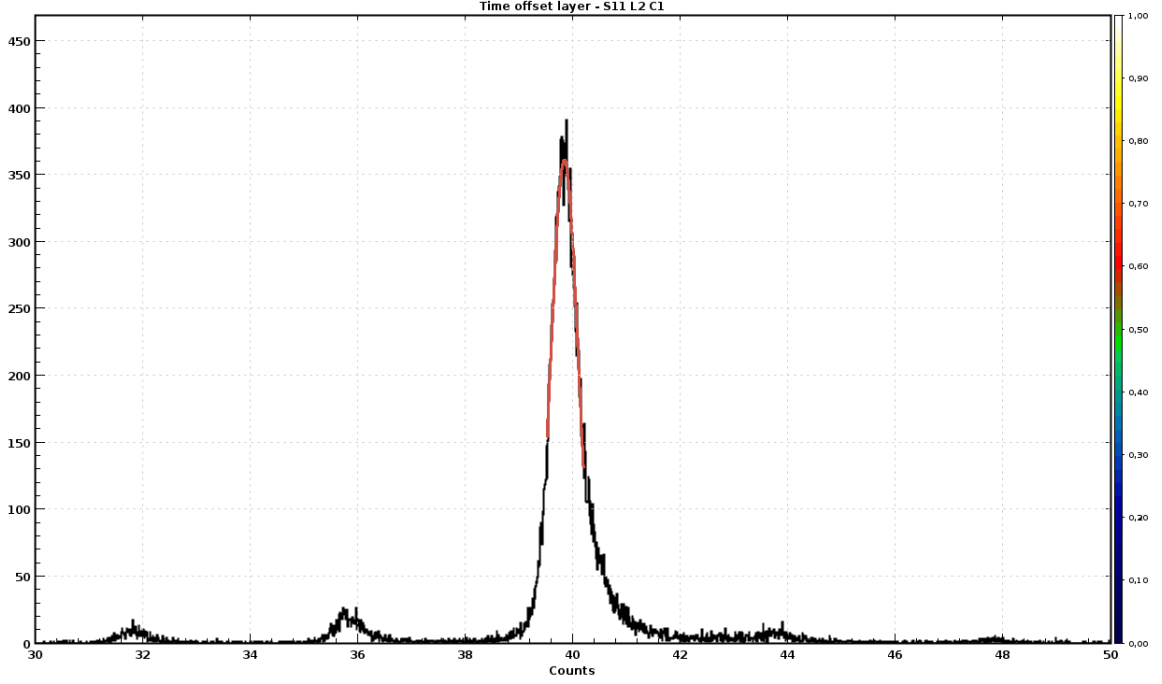

Figure 17: Vertex time distribution and the gaussian fit to extract t_{off} . The multiple peaks are due to mismatched RF times.
0.4) from which the fit range is calculated. An example of a good fit is given in Figure 17.